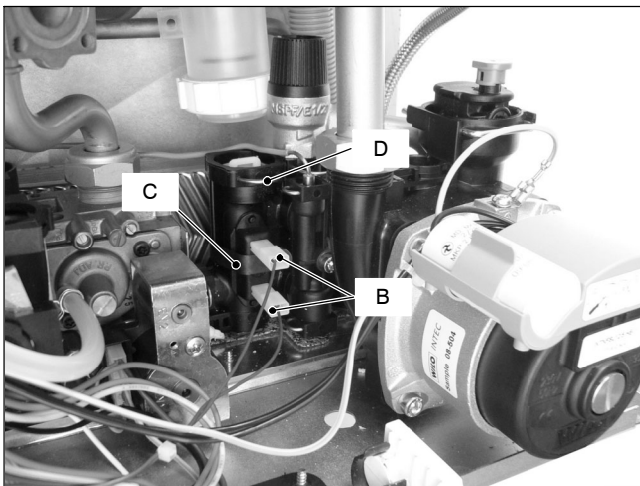

Fig. 14.2
- 2 Disconnect the connectors *B* and remove the sensor holder spring *C* (Fig. 14.2).